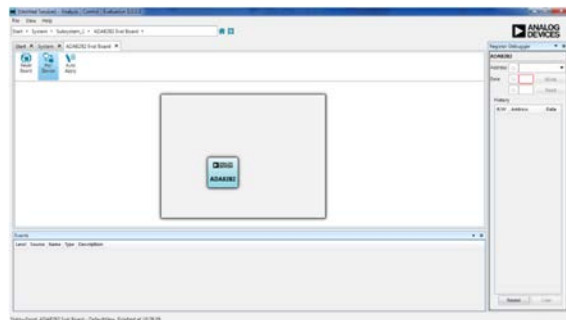

Figure 4. ADA8282 ACE Board View
7. Double-click the ADA8282 evaluation board plug-in to navigate to the ACE board view (see Figure 4).